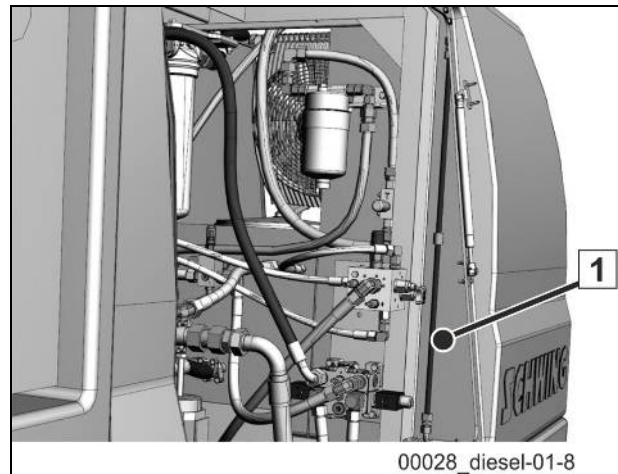

Fig.: 8
The level indicator is located directly on the tank (1) (Fig.: 8).
- Open the right-hand maintenance flap of your stationary concrete pump (SP).